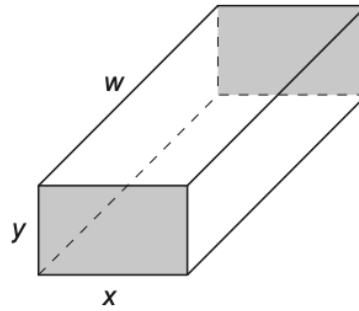

Fig. 3.1
- 17 (a) A uniform metal bar, initially unstretched, has sides of length  $w$ ,  $x$  and  $y$ , as shown in Fig. 3.1.